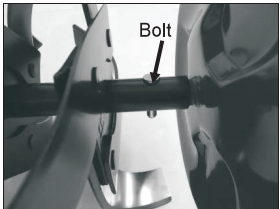
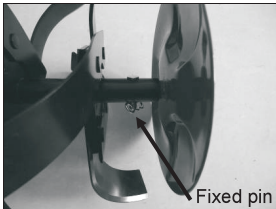

Fig.3D
Fig.3E
3. Fix the blade and protective plate with bolt and fixed pin. (Fig. 3D/ Fig. 3E)